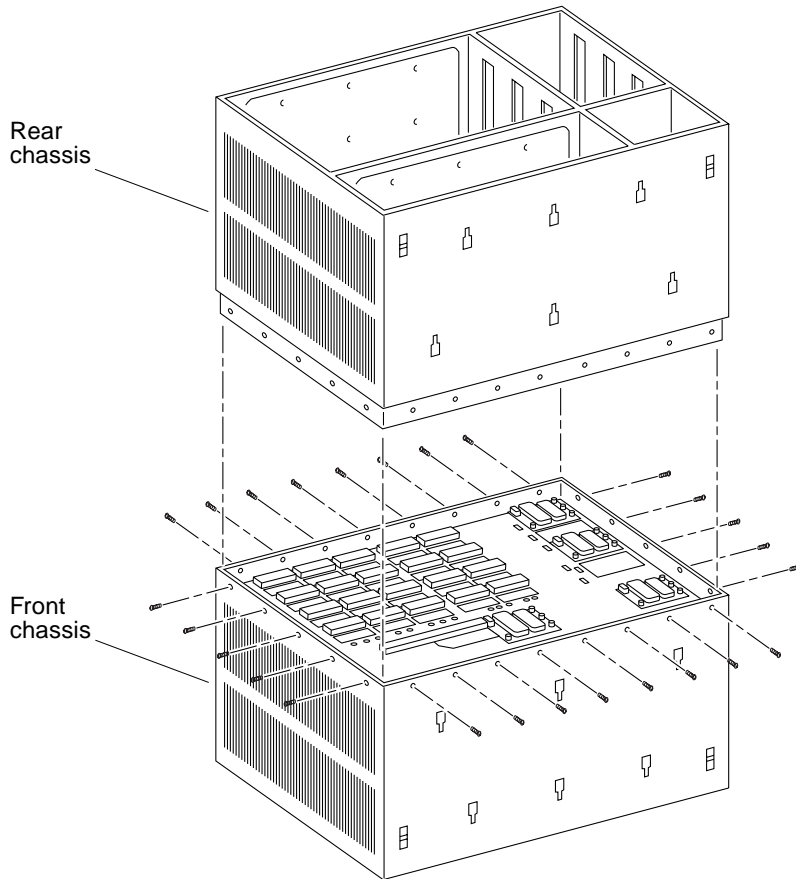

FIGURE 7 System Chassis—Front and Rear
3. **Remove the 26 screws that surround the center seam of the system chassis (FIGURE 7).**
4. **Lift and remove the rear chassis section and set it aside (FIGURE 7).**